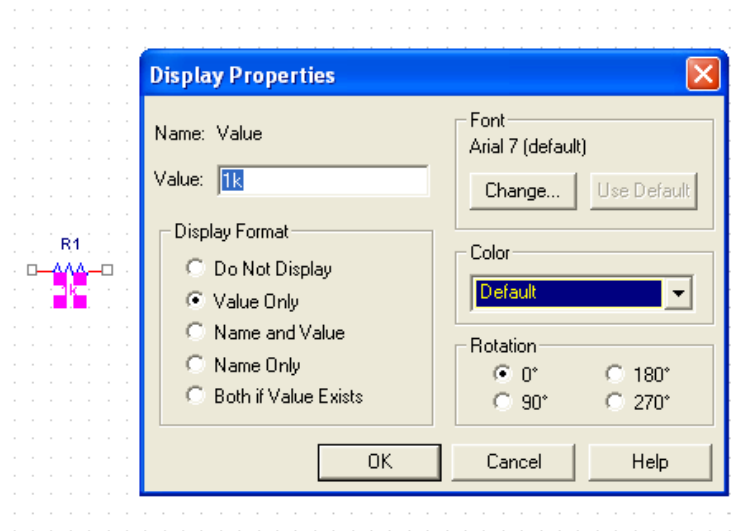

Figure 3 – Resistor's Attributes Dialog
- b. Place a resistor (R) in the ANALOG Library into the schematic page. You can change the part's attributes by clicking on its name (R1) or value (1k), as shown in Figure 3. Change the resistance value to 5k. Maintain the name as R1.